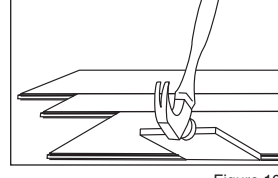

Figure 10
- It may be necessary to align the product with a cut-off piece of scrap as shown (Figure 10 - Keep scrap angle low to avoid edge damage).